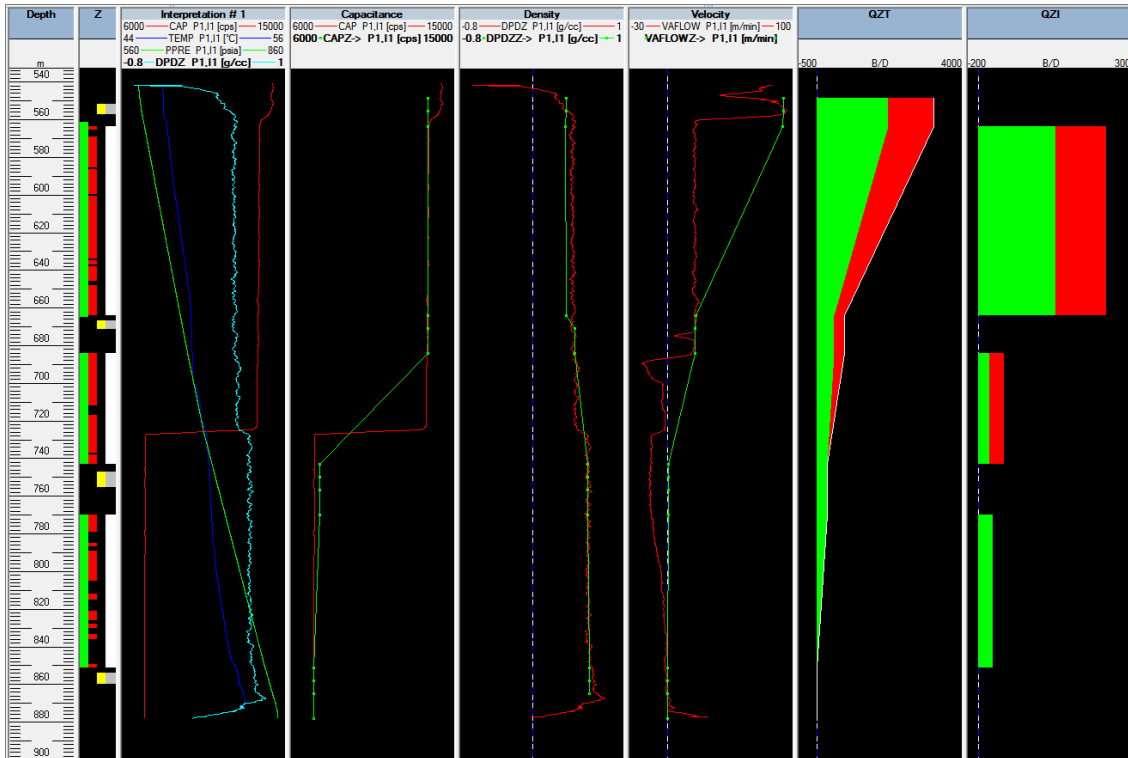

Fig B04.8 • Schematic logs
- Validate with OK and generate the schematic logs, Fig B04.8.